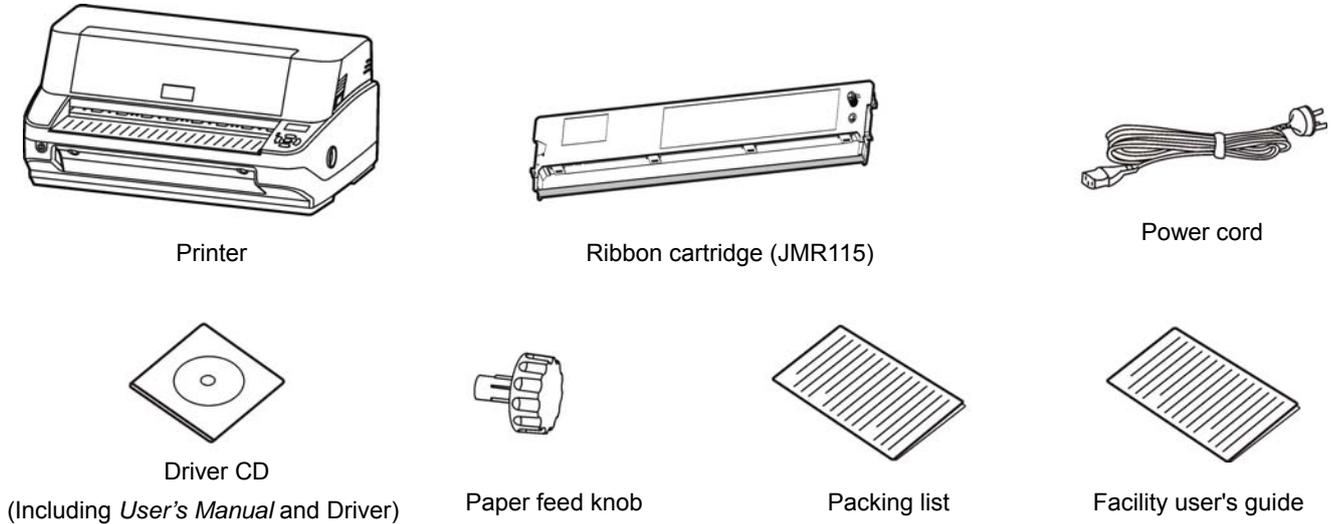

Figure 2-1 Items in the packing list
Check the following items in the package, if any of these items is missing, please contact your dealer. (1) Printer; (2) Ribbon cartridge (JMR115); (3) Power cord; (4) Driver CD; (5) Paper feed knob; (6) Packing list; (7) Facility user's guide (as Figure 2-1 show).